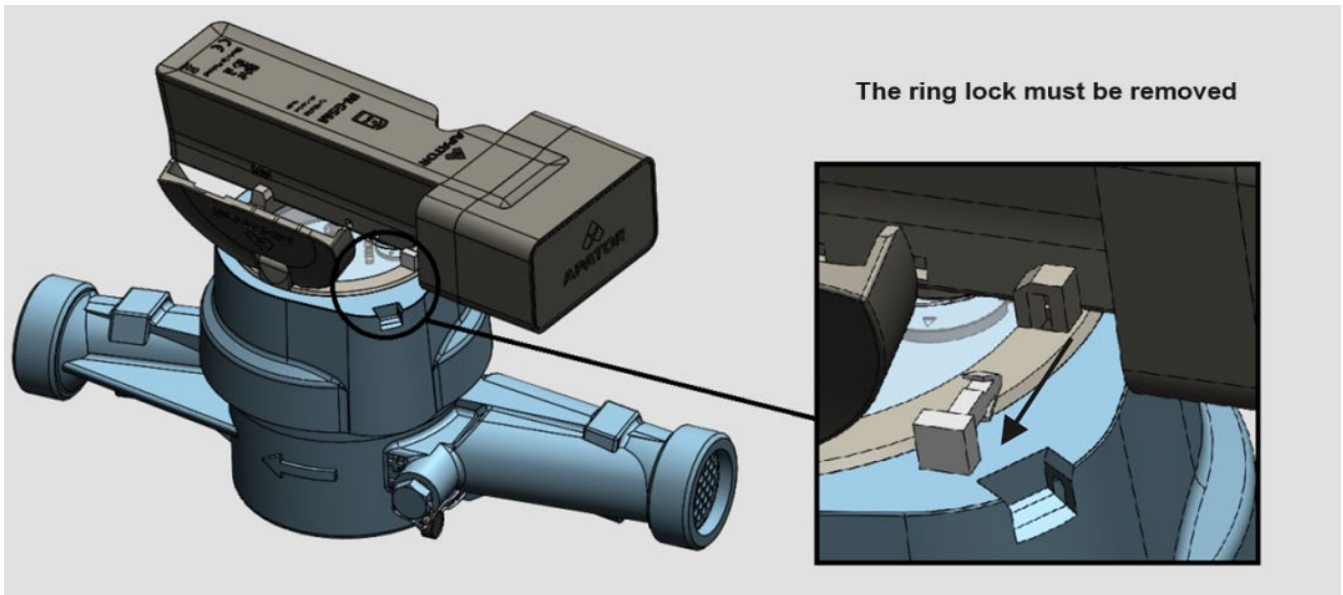

Fig. 40. Removing a ring lock from a IP68 water meter
- Holding the water meter with one hand, pull out the ring lock (Fig. 40) from the counter guard latch and IN-GSM module socket.